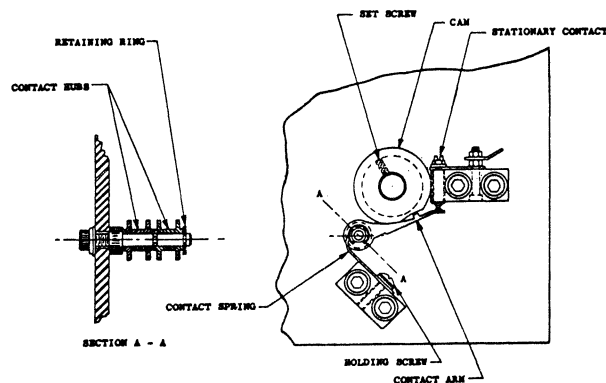

Figure 4-21. Circuit Breaker Cams and Contacts
4. CIRCUIT BREAKER CAMS AND CONTACTS (figure 4-21)